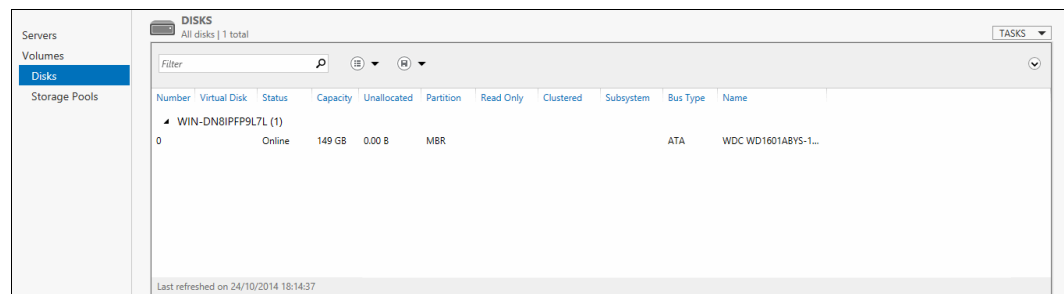

Figure 5-28 The Disks view in File and Storage Services
3. In File and Storage Services, go to **Disks**. Here, all storage devices known to Windows should be listed, as shown in Figure 5-28.